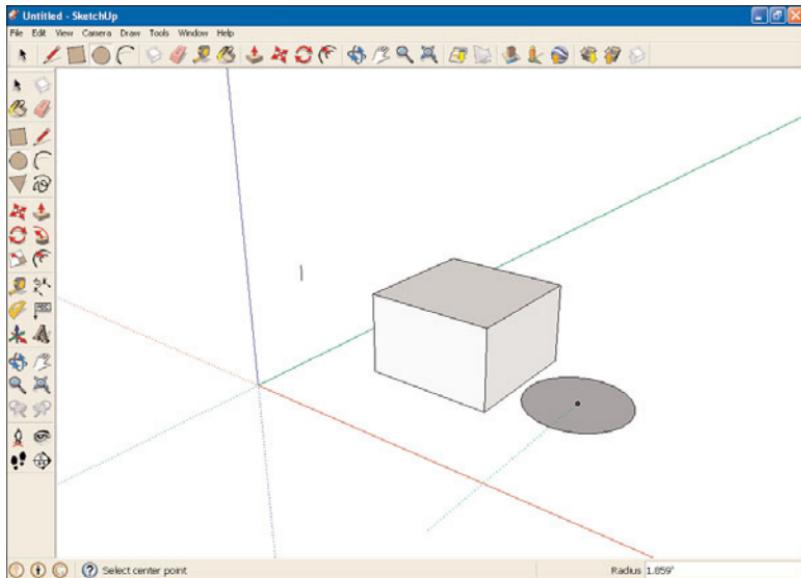

FIGURE 6.2 A cube with a circle.
4. Select the **Circle tool** and draw a circle next to the cube, as shown in Figure 6.2.